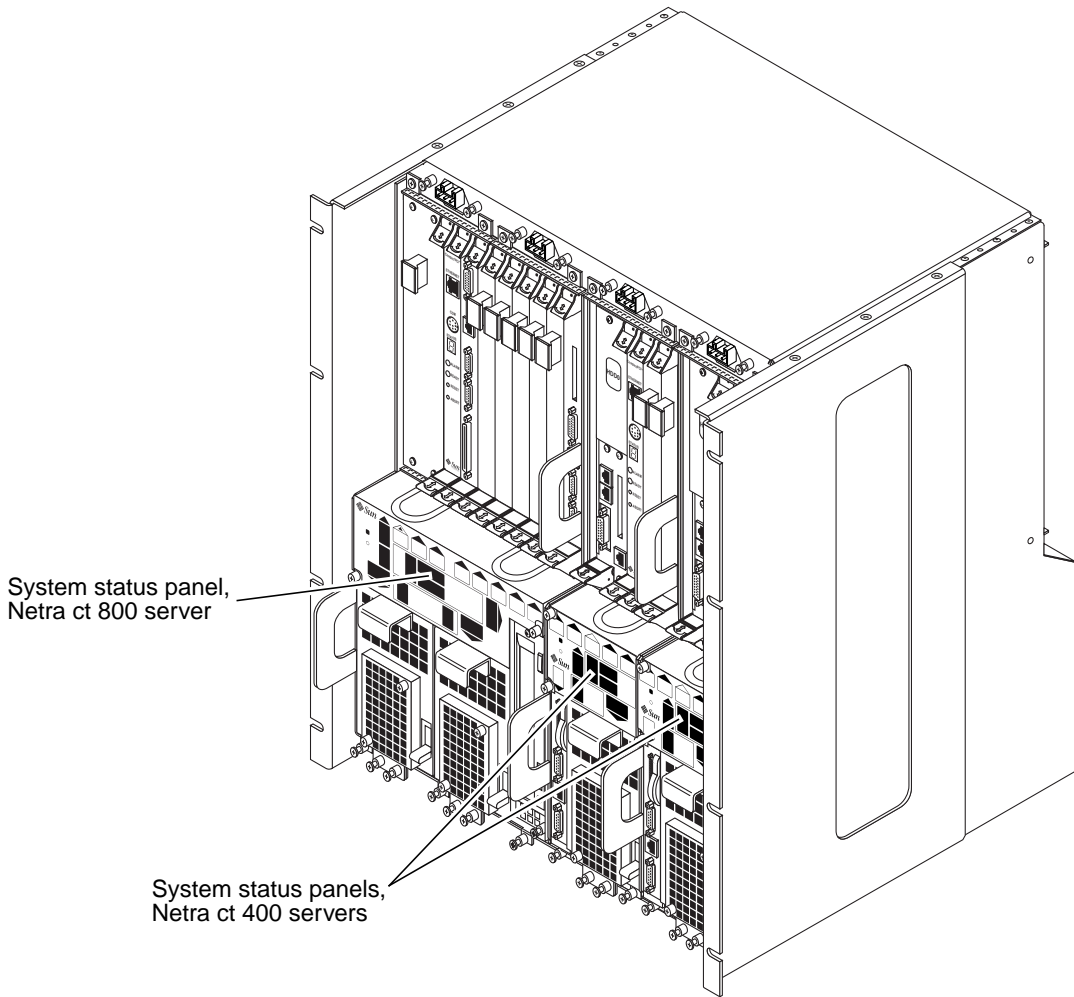

FIGURE 2-3 System Status Panel Locations
The location of the system status panel in the Netra ct 800 server and Netra ct 400 server is illustrated in FIGURE 2-3.
The location of the system status panels in the Netra ct 800 server and Netra ct 400 server is illustrated in FIGURE 2-3.
5. **Go to the front of the Netra ct server and locate the system status panel (see FIGURE 2-3 on page 2-4).**